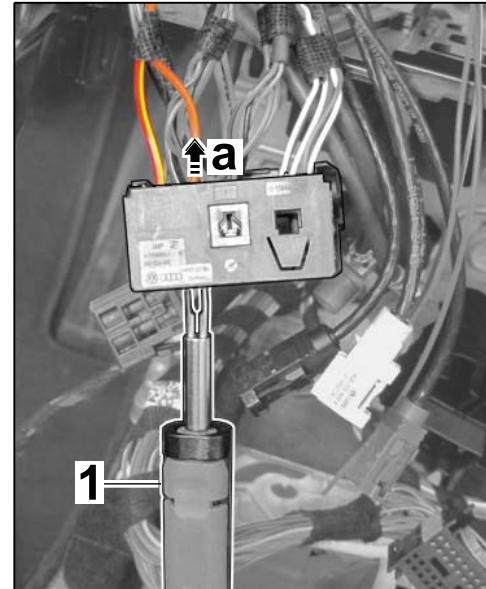

Figure 22
4.4.6 Release socket contact using a suitable press-out tool \Rightarrow Figure 22-3- and press line out of the PCM central connector \Rightarrow Figure 22-a-.